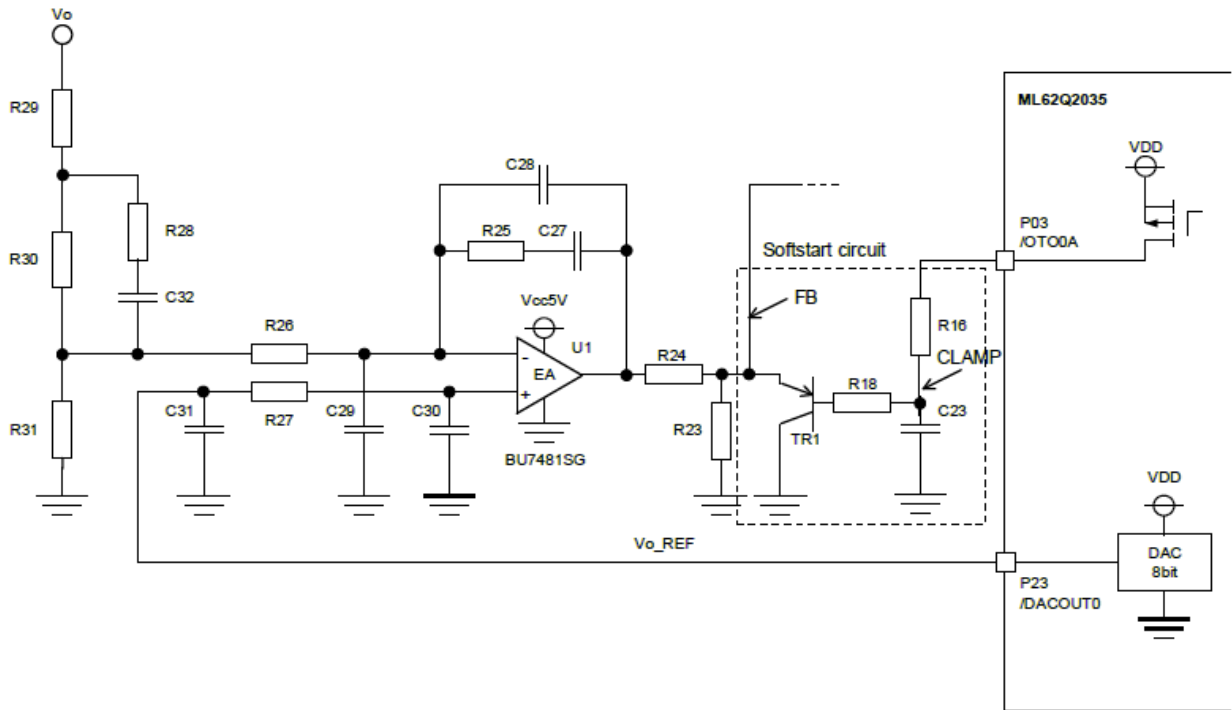

Figure 4-2. Error amplifier and surrounding circuits
- Figure 4-2 shows the error amplifier and surrounding circuits. BU7481SG is mounted on as an error amplifier. As control block power supply Vcc5V is supplied, the error amplifier starts to operate but startup of the error amplifier output is controlled by the soft start circuit. Refer to the datasheet of that [6] for more detail information about BU7481SG.